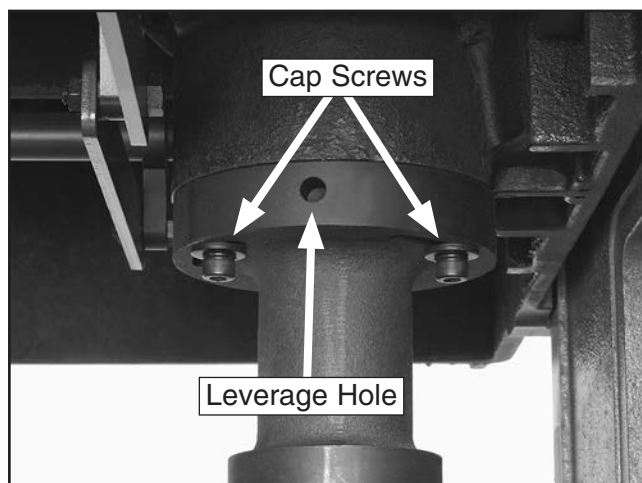

Figure 35. Table elevation screw housing bracket.
6. Use the 6mm hex wrench to loosen the table elevation housing bracket cap screws (underneath the table) for that side of the table (see **Figure 35**).